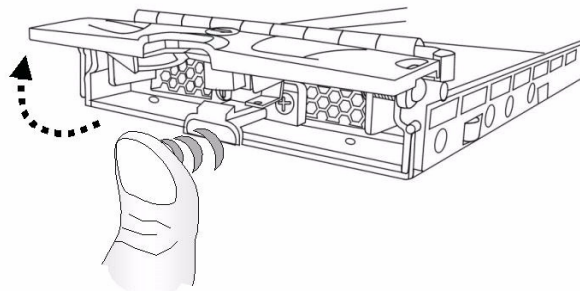

Fig. 3.2 Drive Tray Front Flap
2. Open the front flap on the drive tray. (See *Figure 3.2*) Push the button on the front of the drive tray. The front flap will open in an upward direction.